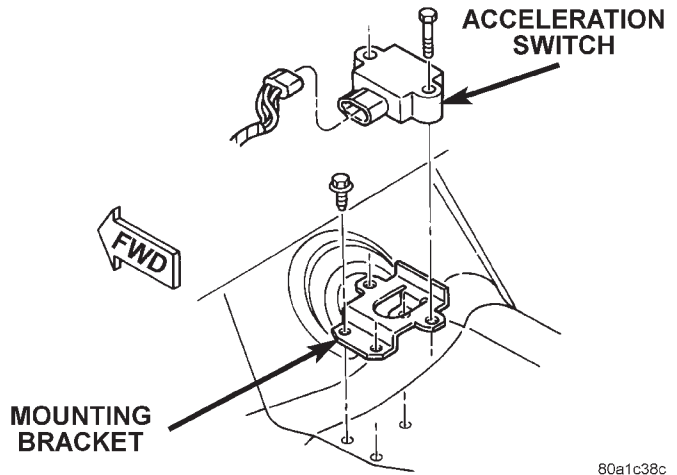

Fig. 15 Acceleration Switch Remove/Install
(1) Disconnect and isolate the battery negative cable. If the airbag has not been deployed, wait two minutes for the system capacitor to discharge before further service.
(2) Pull back the carpet from the floor pan transmission tunnel area under the heater-A/C housing floor duct and forward of the center floor console.
(3) If the vehicle is equipped with the optional anti-lock brake system, remove the acceleration switch and mounting bracket from the floor pan transmission tunnel (Fig. 15).